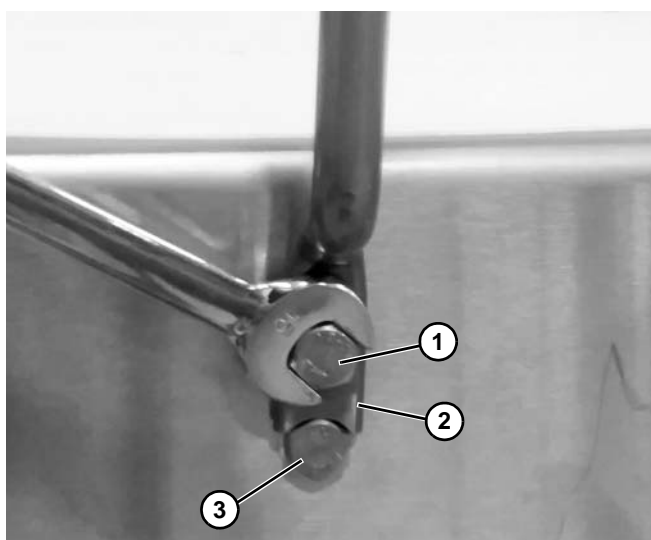

Figure 33
1. Remove the top screw (**Figure 33, item 1**).
2. Install the guide post (**Figure 33, item 2**) resting on lower screw (**Figure 33, item 3**). Reinstall top screw and tighten.